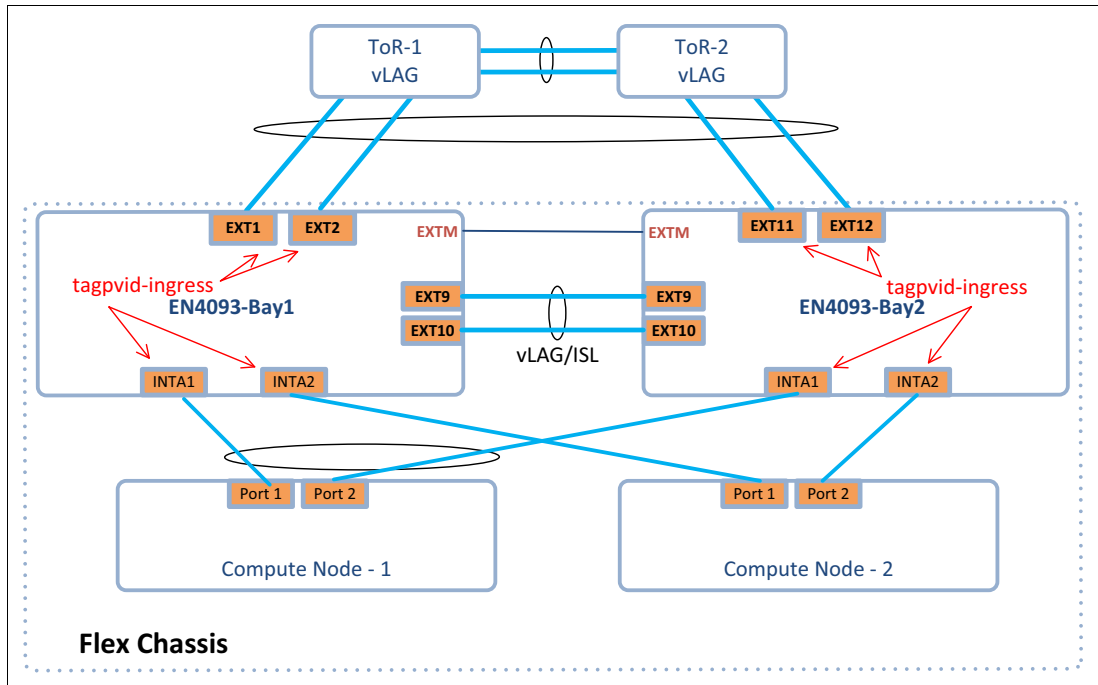

Figure 2-15 Easy Connect with tagpvid-ingress and vLAG
Figure 2-15 shows an example of how to implement tagpvid-ingress Easy Connect with vLAG on a pair of EN4093s and G8264 Top of Rack Switches (Nexus 5k Switches and others can also be used when the ToR Switches appear as a single entity; that is, Stack, vLAG, VSS, vPC, MCLAG, and so on).
- As shown in Figure 2-15, you can be seen that regardless of whether you are running tagpvid-ingress or Layer 2 standard switching, both options support similar topologies.